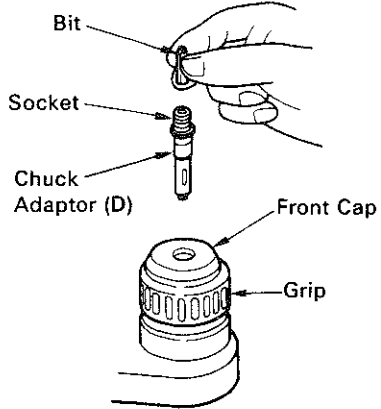

Fig. 17
**6. When driving machine screws (Fig. 17)**
- Do not attempt to use the rotary hammer in the rotation and striking fucion with the chuck adaptor (D) and bit attached.
**7. When driving wood screws (Fig. 17)**